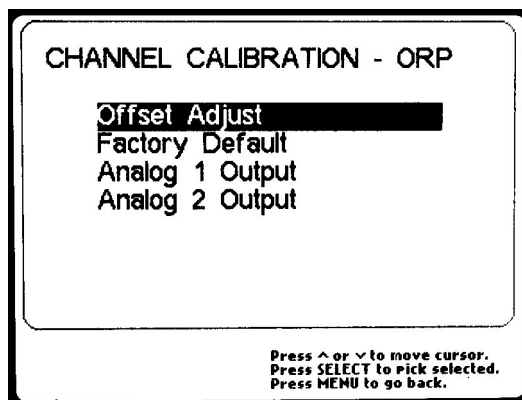

Figure 41 - Channel Calibration - ORP
3. From the CHANNEL CALIBRATION – ORP screen (Figure 41), the OFFSET ADJUST option should already be highlighted. Press SELECT.